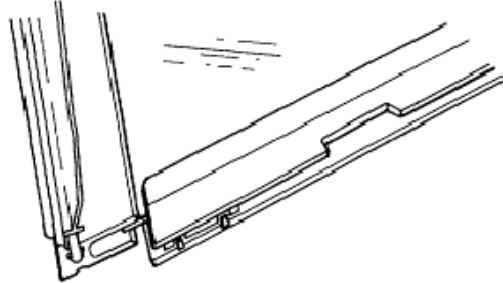

Figure 190 Draught Seal Rubber Installation
- s. Slide in a new draught seal rubber onto the draught rail (Figure 190).